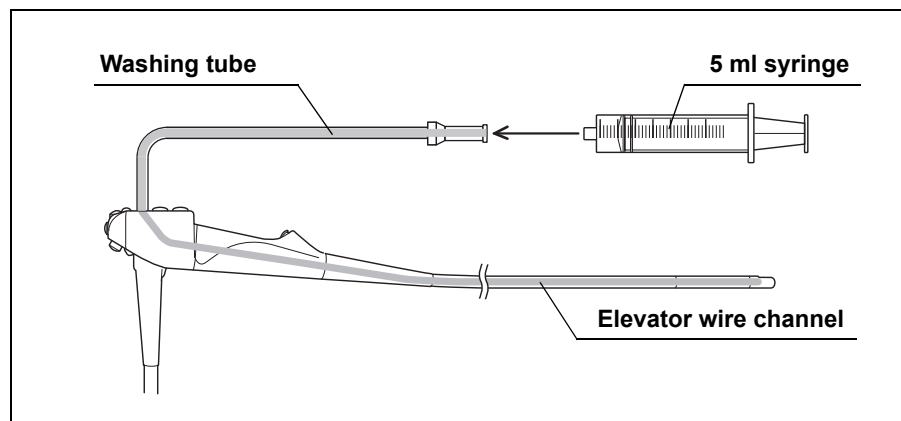

Figure 5.4
4. Fill and attach the 5 ml syringe to the Luer port of the washing tube and slowly flush the elevator wire channel with 15 ml of the water. Confirm that no air bubbles exit the distal end during the three flush. If air bubbles still exit, flush the channel with the water until no air bubbles exit (see Figure 5.4).